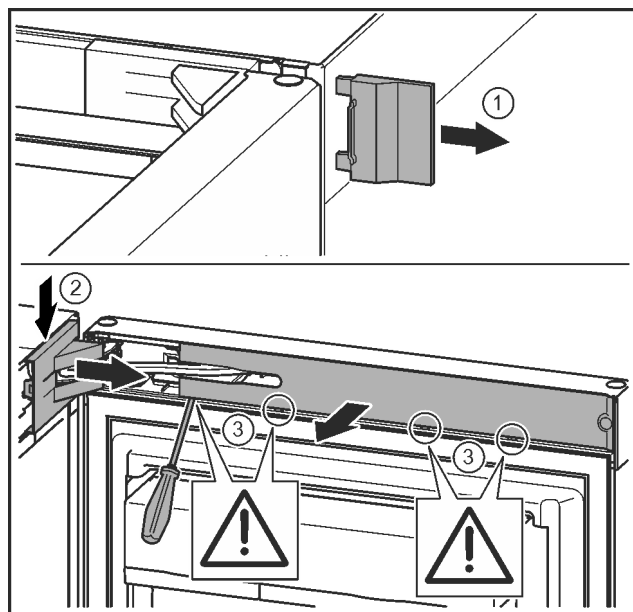

Fig. 9
- Remove the outer cover. *Fig. 9 (1)*
- Disengage and release the bearing bracket cover. Remove the bearing bracket cover. *Fig. 9 (2)*
- Unlatch the panel with a slotted screwdriver and swivel it to one side. *Fig. 9 (3)*